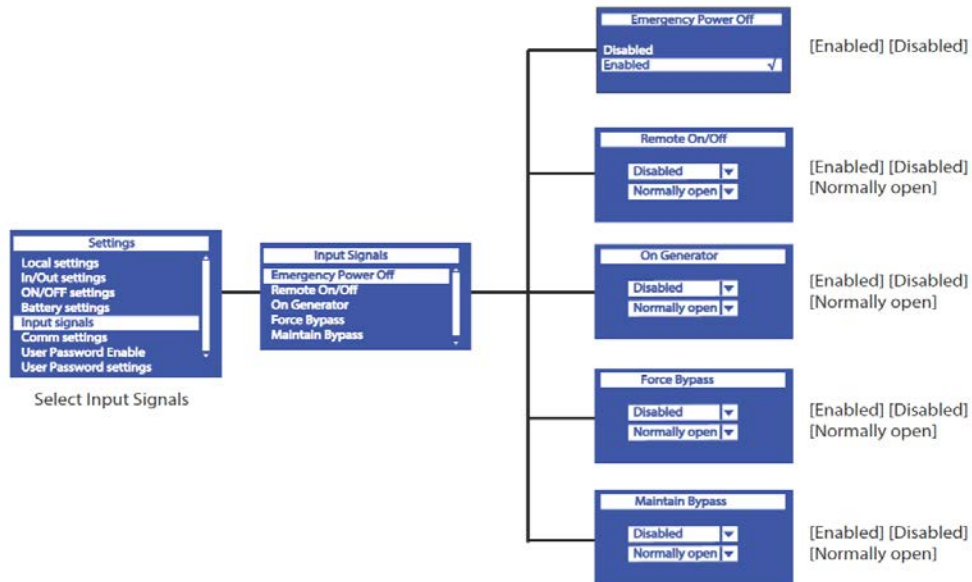

Figure 2: Enabling Bypass with 9PXM LCD menu
Figure 1 displays the wiring diagram for using the legacy bypass with the 9PXM. Figure 2 displays instructions for enabling the bypass through the 9PXM LCD menu.
3. Navigate the 9PXM LCD to the forced and maintain bypass settings per figure 2, input signals menu, in the 9PXM user guide. Set both *Forced Bypass* and *Maintain Bypass* settings to enabled and normally open (figure 2).